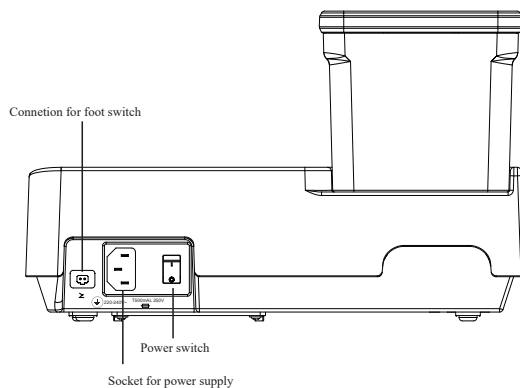

Figure 2
2.5.4 Bottle the water, and put a proper amount of water in the bottle. (See figure 2)
2.5.6 Turn off the power switch on the host computer, and then plug in the 220 V ~ power cord plug (as shown in Figure 2).